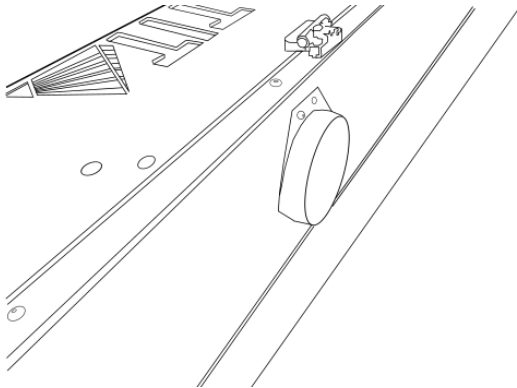

Fig. 3
1. **Install Exhaust Flange:** Use the provided flange bolts to install the ducting collar on the rear of the machine as shown in Fig. 3.